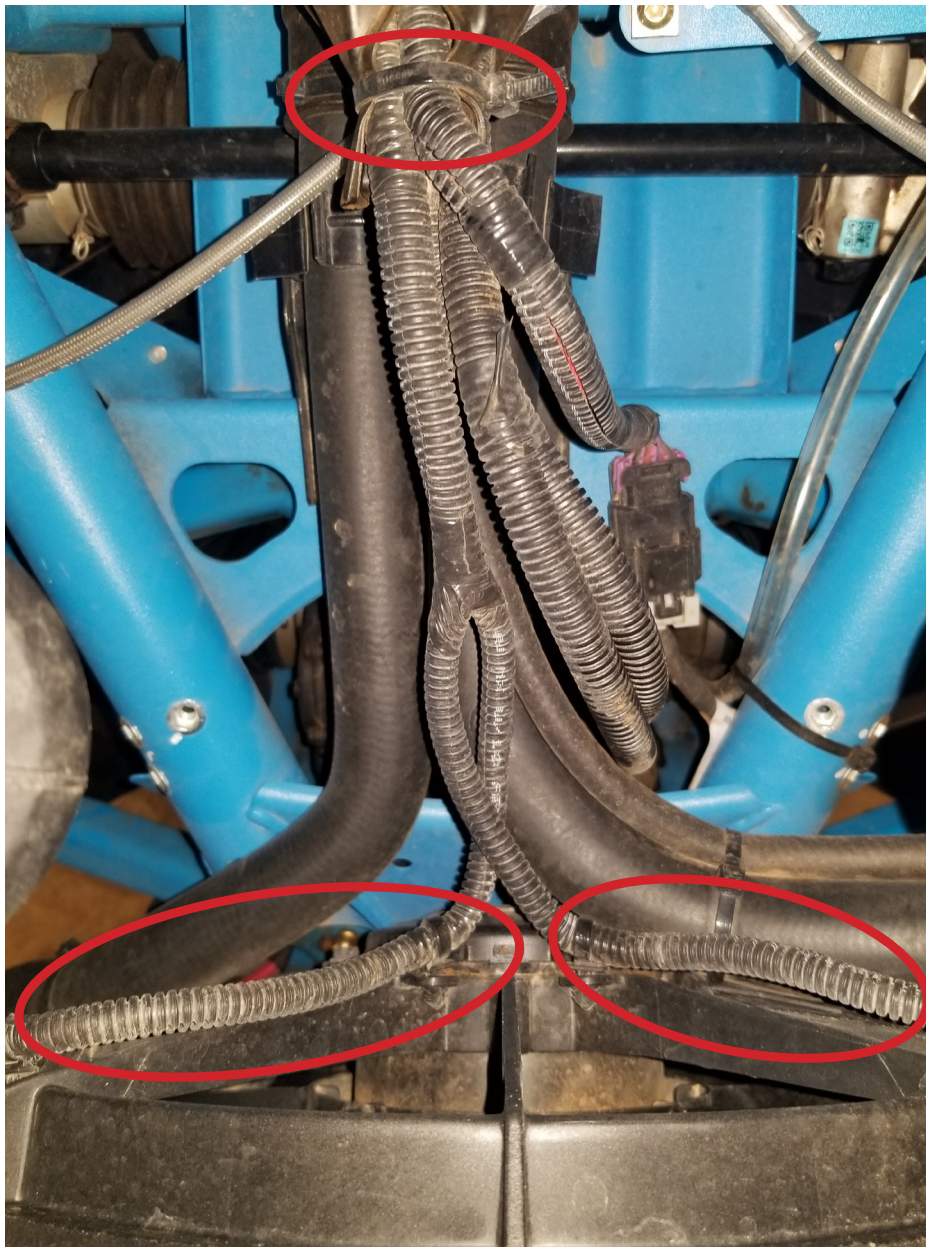

Figure 6: Shows the critical routing along the back of the radiator fan and through the center console housing.
1. Run the iQS front shock leads downwards using two of the supplied cable ties to secure each of the iQS front shock leads to the OEM headlight harnesses on the back of the radiator fan (Figure 6).
3. Remove the zip tie around the rubber center console housing and route the iQS front shock leads into the center console cavity. Plug the leads into their respective main harness receptacles until you hear a click. Re-install a cable tie around the rubber center console housing, OEM harness bundle, and iQS front shock leads (Figure 6).